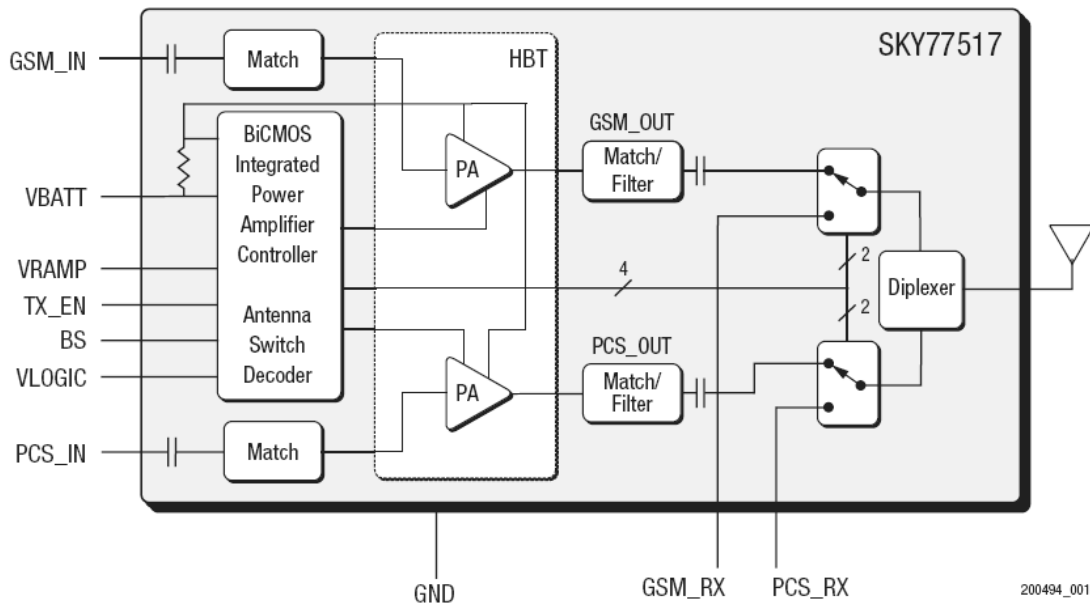

Figure. 3-2 SKY77517 FUNCTIONAL BLOCK DIAGRAM
Band Selection and control of transmit and receive modes are performed using two external control pads. Refer to the functional block diagram in Figure 3-2. The Band select pad (BS) selects between GSM and PCS modes of operation. The transmit enable (TX_EN) pad controls receive or transmit mode of the respective RF switch (TX = logic 1). Proper timing between transmit enable (TX_EN) and Analog Power Control (VRAMP) allows for high isolation between the antenna and TX-VCO while the VCO is being tuned prior to the transmit burst.